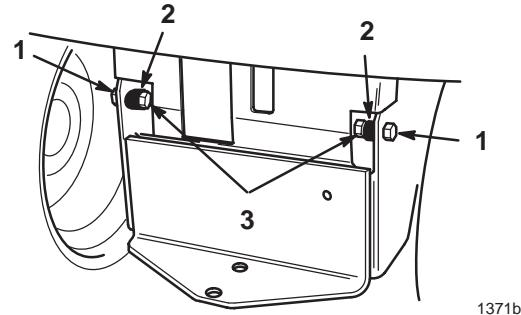

Figure 6
1. Mount two spacers against inside of tractor frame with (3 $\frac{1}{8}$ " x 1-3 $\frac{1}{4}$ ") bolt and nut (Fig. 6).